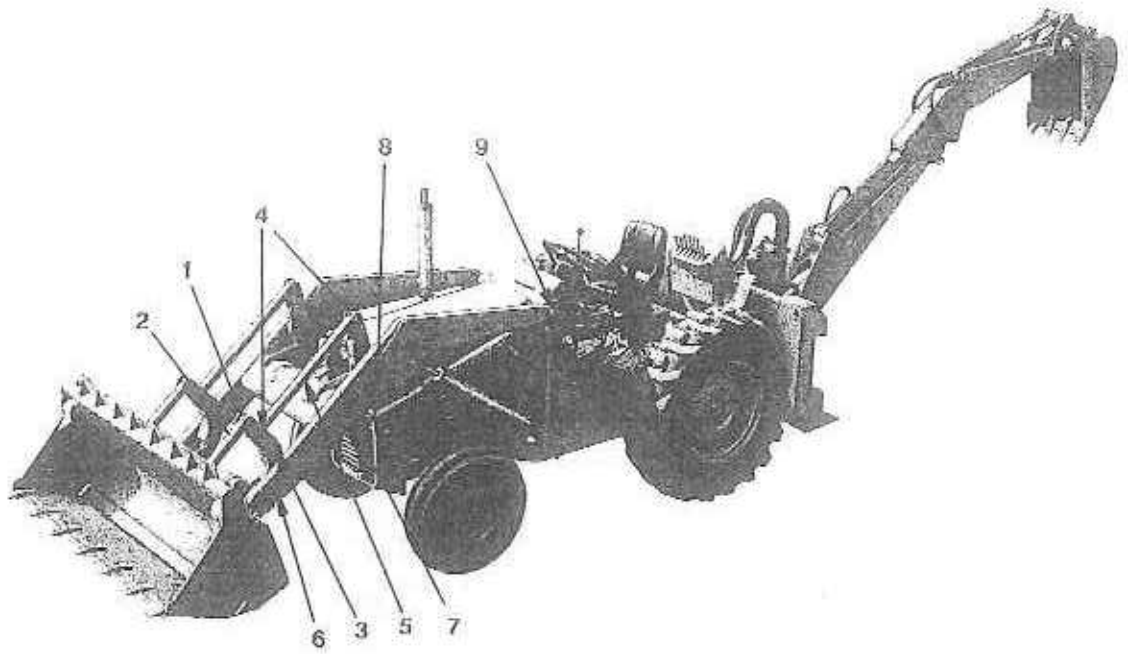

FIG 1
2. (Fig. 1) Remove the split pins and pivot pins (1) which secure the short transfer arms (2) to the counter arms (3) and remove the transfer arms.
3. Remove the split pins and pivot pins (4) securing the long transfer arms (5) to the counter arms and remove the transfer arms.
4. Remove the split pins and pivot pins (6) which secure the front counter lever (3) to the lift arms and remove the levers.
5. Remove the pivot pins and split pins (7) securing the bucket rams to the counter levers.
6. Remove the split pins and pivot pins (8) securing the rear counter levers to the lift arms and remove the levers.
9. Support the loader lift arms on a suitable gantry and remove the split pins and pivot pins (9) which secure the loader arms to the side frames.